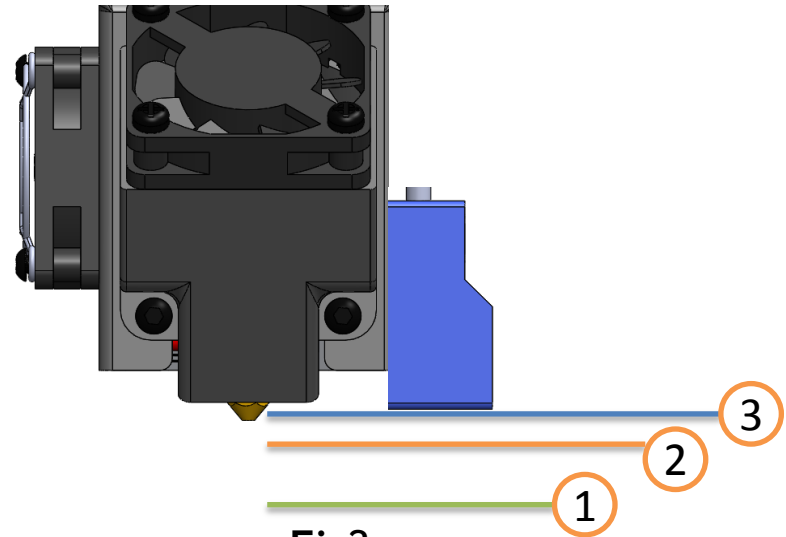

Fig2
3. Adjust the position of Z-axis limit switch (the printer which Z-axis limit switches is removable, such as Z5, Z6, Z8S, etc.) or adjust the "Z height adjustment screw" (the printer which Z-axis limit switches is fixed but there is a screw to adjust the Z height, such as P802N, Z9, etc.), and let their position to meet the following conditions (Fig 2).